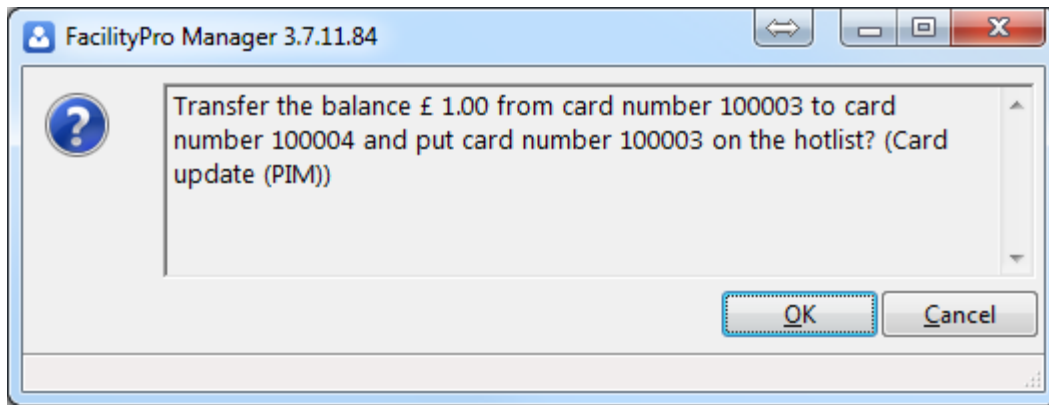
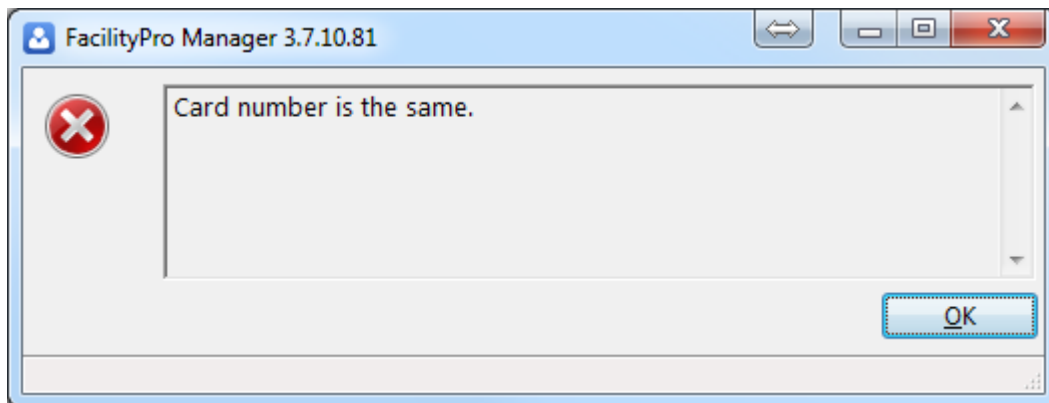
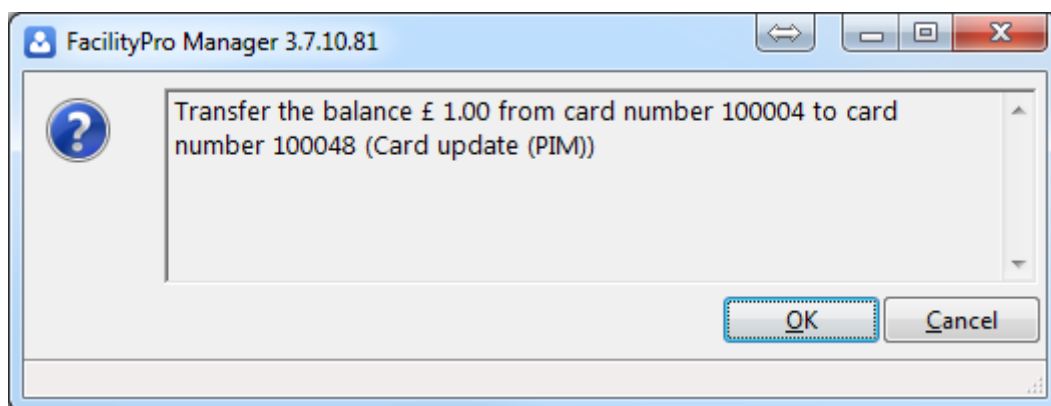

Figure 3-32 Balance transfer
Figure 3-33
Figure 3-36 Balance transfer
4. Click **Balance transfer**. You will see a message as in Figure 3-32. If the card selected and the card place in or on the PC card reader are the same, you will see the message shown in Figure 3-33.
5. Enter the card number of the card to which you want to transfer the balance of the selected card and click **OK**. You will see a message as in Figure 3-36. If the card selected and the card number entered are the same, you will see the message shown in Figure 3-33.